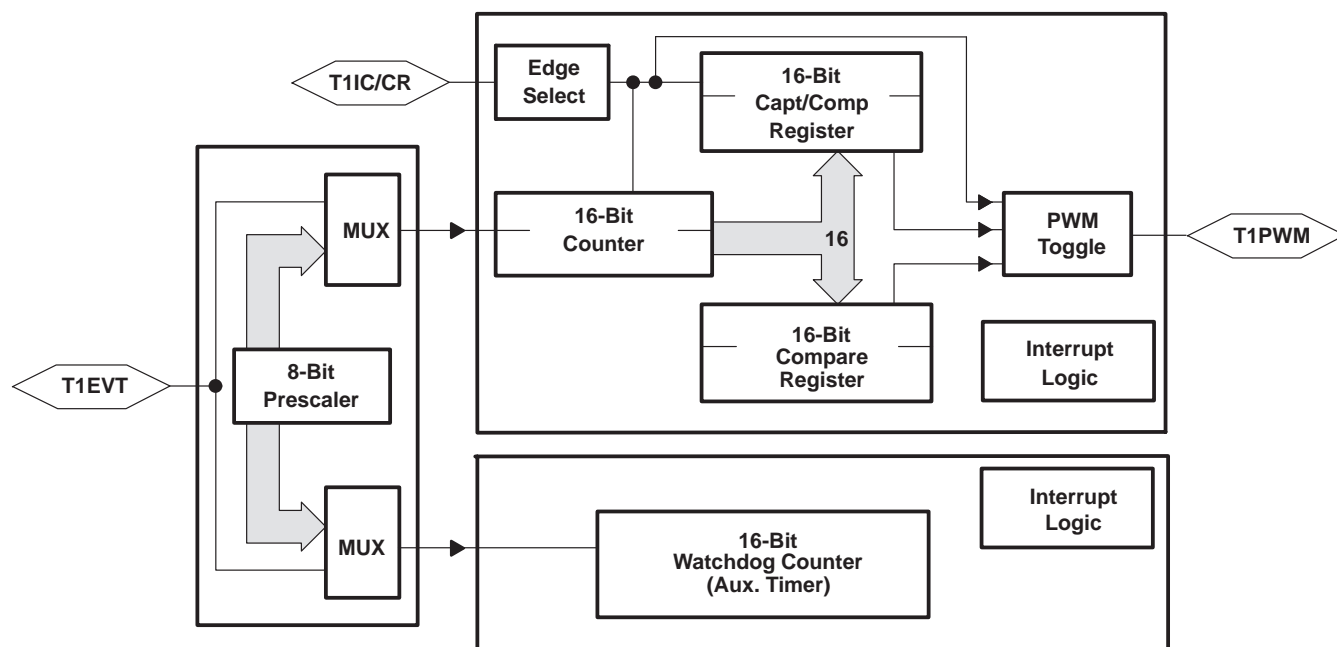

Figure 5. Timer 1 Block Diagram
The programmable Timer 1 (T1) module of the TMS370Cx4x provides the designer with the enhanced timer resources required to perform real-time system control. The T1 module contains the general-purpose timer and the watchdog (WD) timer. The two independent 16-bit timers, T1 and WD, allow program selection of input clock sources (real-time, external event, or pulse accumulate) with multiple 16-bit registers (input capture and compare) for special timer function control. The T1 module includes three external device pins that can be used for multiple counter functions (operation-mode dependent), or used as general-purpose I/O pins. The T1 module block diagram is shown in Figure 5.